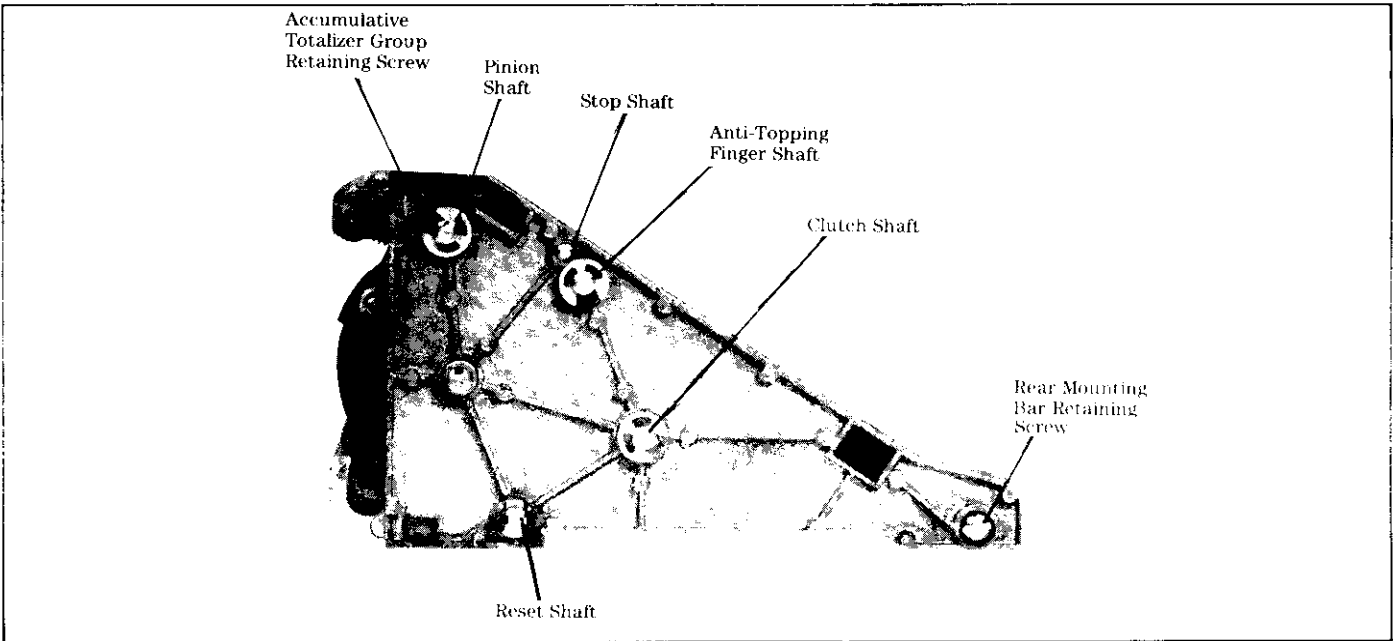

Figure 7. Right-Hand Side Plate.
2. Remove retaining rings and washers securing the pinion, reset, anti topping and clutch shafts to the right-hand side plate (Figure 7). Remove screws and lockwasher securing the totalizer group and rear mounting bar from right-hand side plate.
- a. Remove the screws securing the totalizer group to the left-hand and right-hand side plates. See Figures 7 and 8.